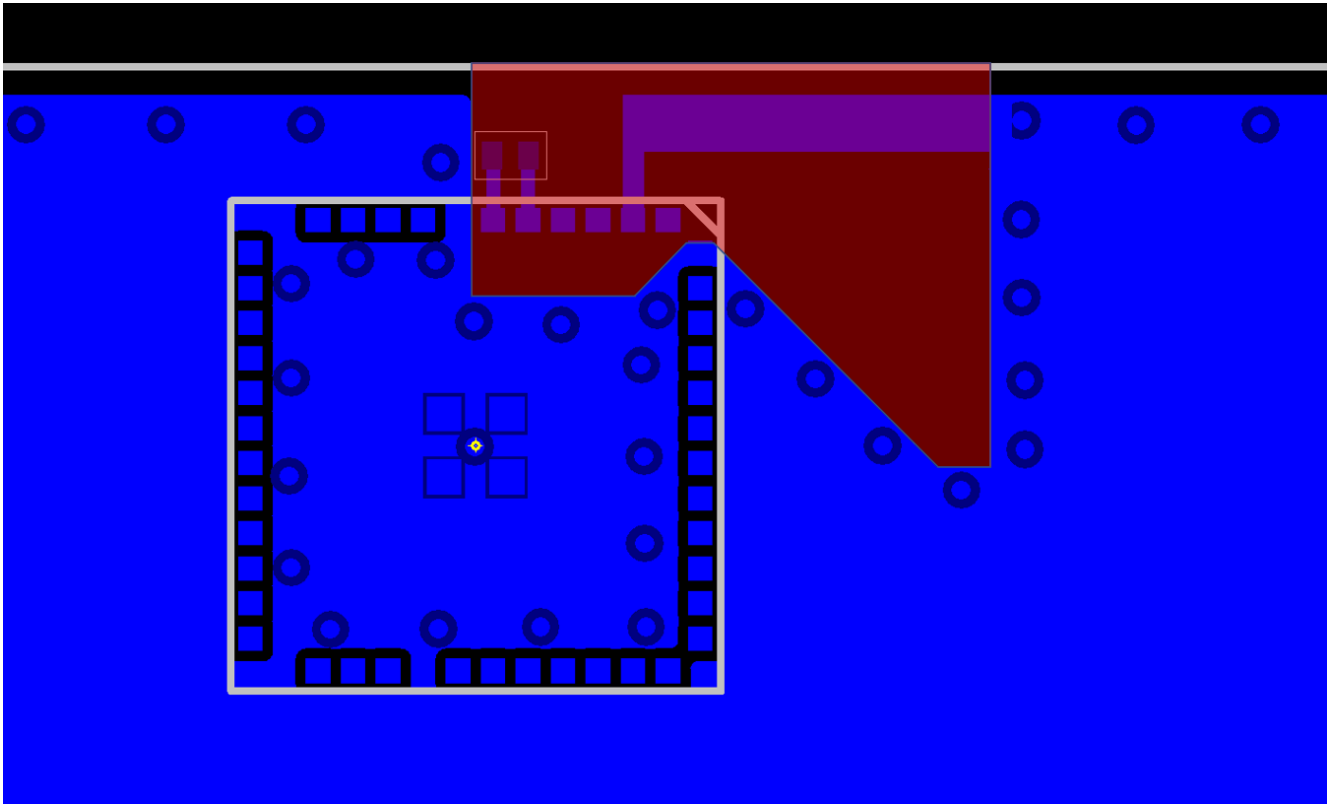

Figure 7.3. Antenna Clearance in Inner and Bottom Layers
- Make a cutout in all lower layers aligned with the right edge and the bottom edge of the integral loop antenna as indicated by the red box in Figure 7.3 Antenna Clearance in Inner and Bottom Layers on page 41.
- Generally ground planes are recommended in all areas of the application board except in the antenna keep-out area shown in Figure 7.3 Antenna Clearance in Inner and Bottom Layers on page 41.